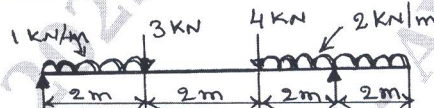

Fig.Q5(b)
b. Find the reactions at the fixed end and draw SFD and BMD for the beam shown in Fig.Q5(b). Locate point of contraflexure. (15 Marks)